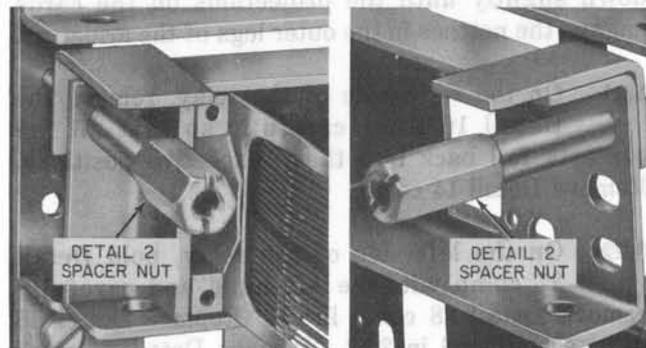

Fig. 14—Detail 2 Spacer Nuts in Place
- (g) Screw the Detail 2 spacer nuts into the Detail 4 studs at both ends of the mounting plate and tighten. See Fig. 14.